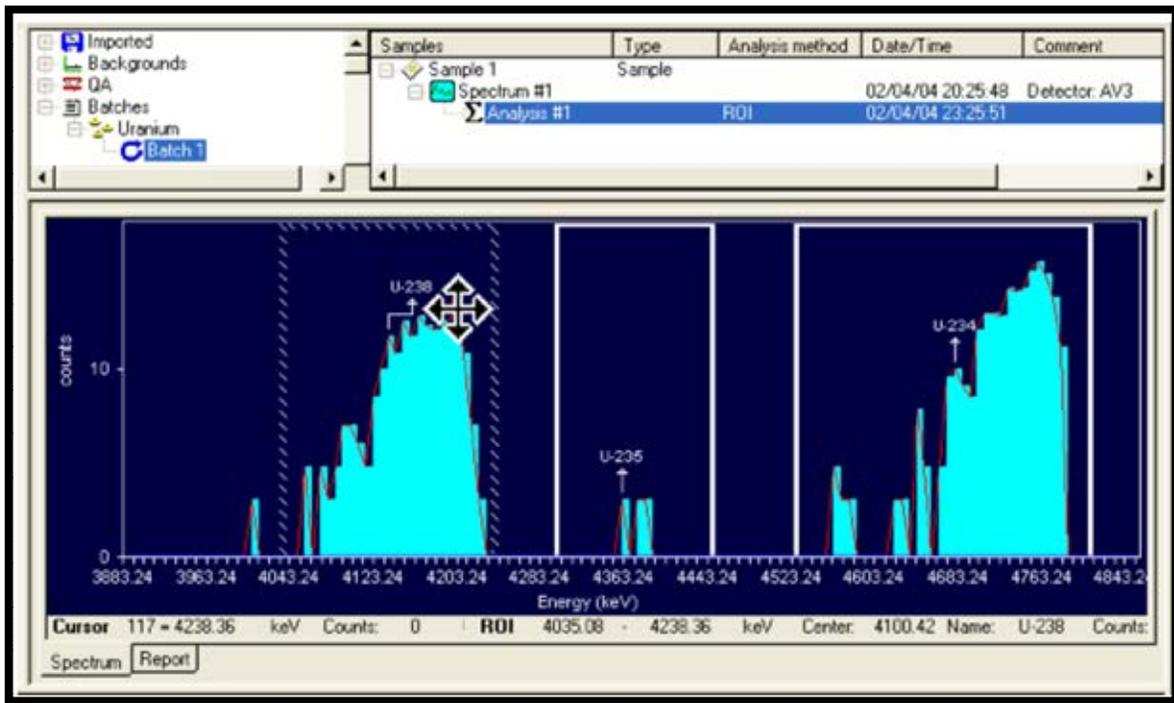

Figure 139. Click and Drag the Four-Sided Arrow to Reposition the Centroid, If Necessary. Status Line Will Update to Show New Centroid
- 4) Next, reposition the centroid, if necessary. To do this, roll the mouse pointer over the small centroid marker until the pointer changes to a four-sided arrow (Figure 139), then click and drag to the new centroid position. The centroid marker will now indicate the new position (📍).